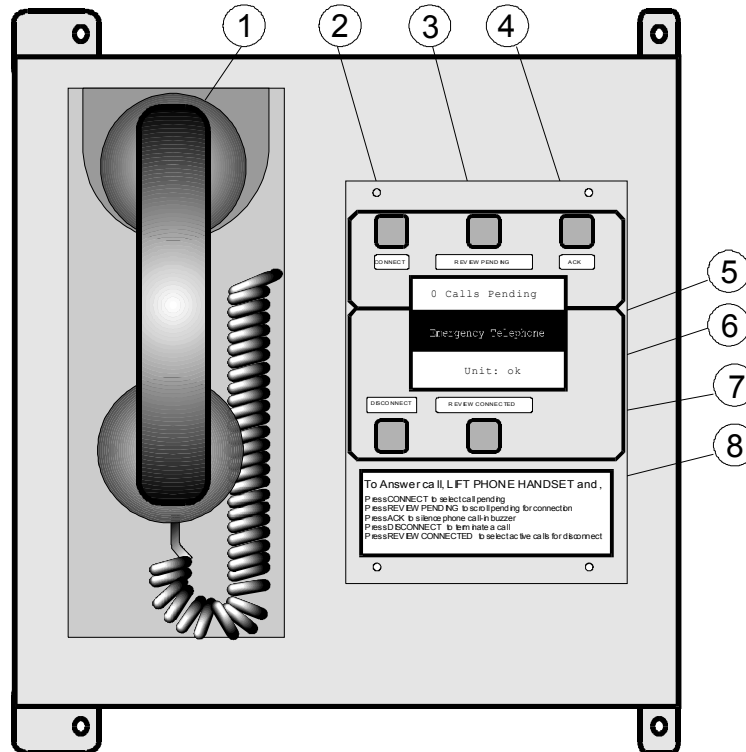

Figure 4-1: 3-FTCU controls and indicators
**3-FTCU controls and indicators (see Figure 4-1)**